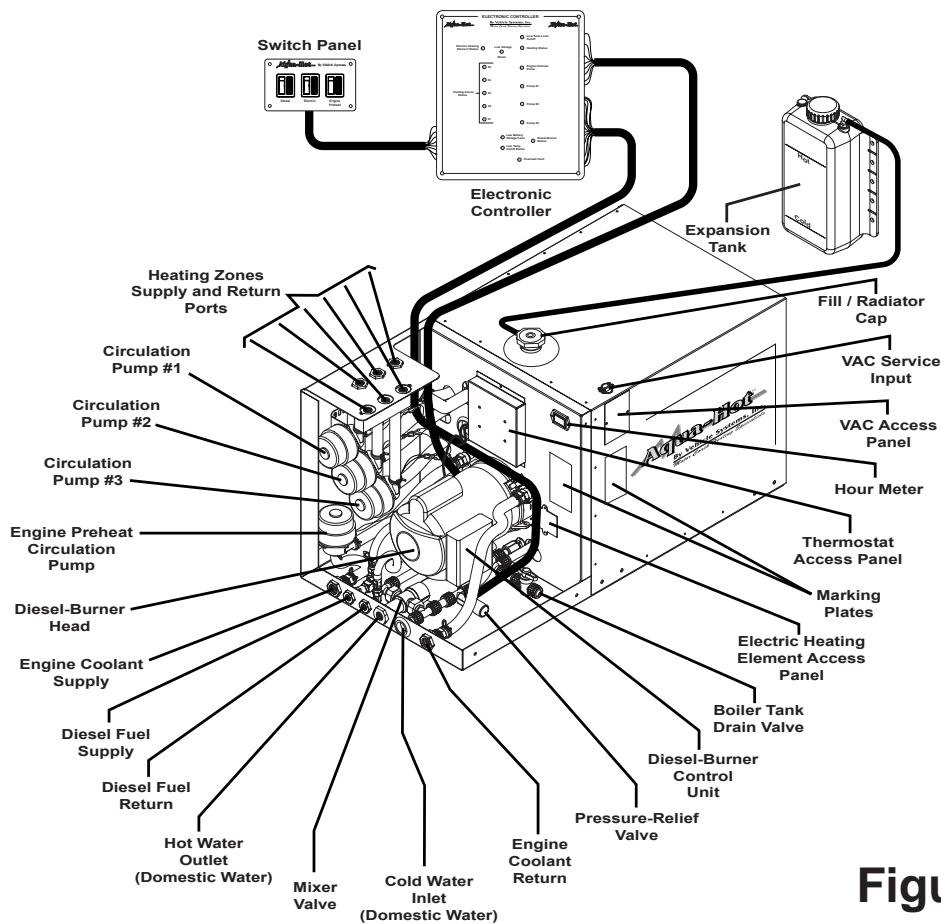

Figure 1
Aqua-Hot Model No. (reference Figure 1 "Marking Plate"): _____
Aqua-Hot Serial No. (reference Figure 1 "Marking Plate"): _____
The Aqua-Hot Heating System is an on-board Hydronic Heating System (heating with hot water) that provides a continuous, on-demand supply of domestic hot water, as well as interior zone heating where and when it is needed. Both heating features are accomplished by a unique VDC-Powered Diesel-Fired Burner and a VAC-Powered Electric Heating Element (120 VAC). These two heating sources maintain the temperature of the Aqua-Hot's solution of water and antifreeze. In addition, the Aqua-Hot has been designed to preheat the vehicle's engine prior to starting. This preheat feature provides an easy engine start-up whenever cool weather conditions are present. Be sure to review **Figure 1** for complete component overview.
Check the Aqua-Hot's solution of water and antifreeze to ensure that it is at the proper level. Do this by visually checking the coolant level in the Aqua-Hot's Expansion Tank, reference **Figure 1**. Please note that the coolant level should be checked **only** when the Aqua-Hot is at maximum operating temperature (i.e. when the Diesel-Burner cycles **OFF**), "**HOT.**"
- C. Remove the Aqua-Hot's Access Cover and check for loose plug connectors on the Diesel-Burner's Control Unit (located on the under side), see **Figure 1**.